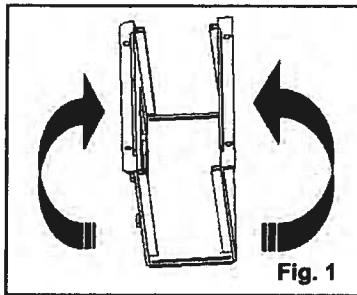

Fig. 1
Installation Accessories *Fig. 1*
Fig. 1 a External Water Tank Accessories
1) Fold both sides of the Rain Hood 90° as so the flanges are facing outward. Fig 1